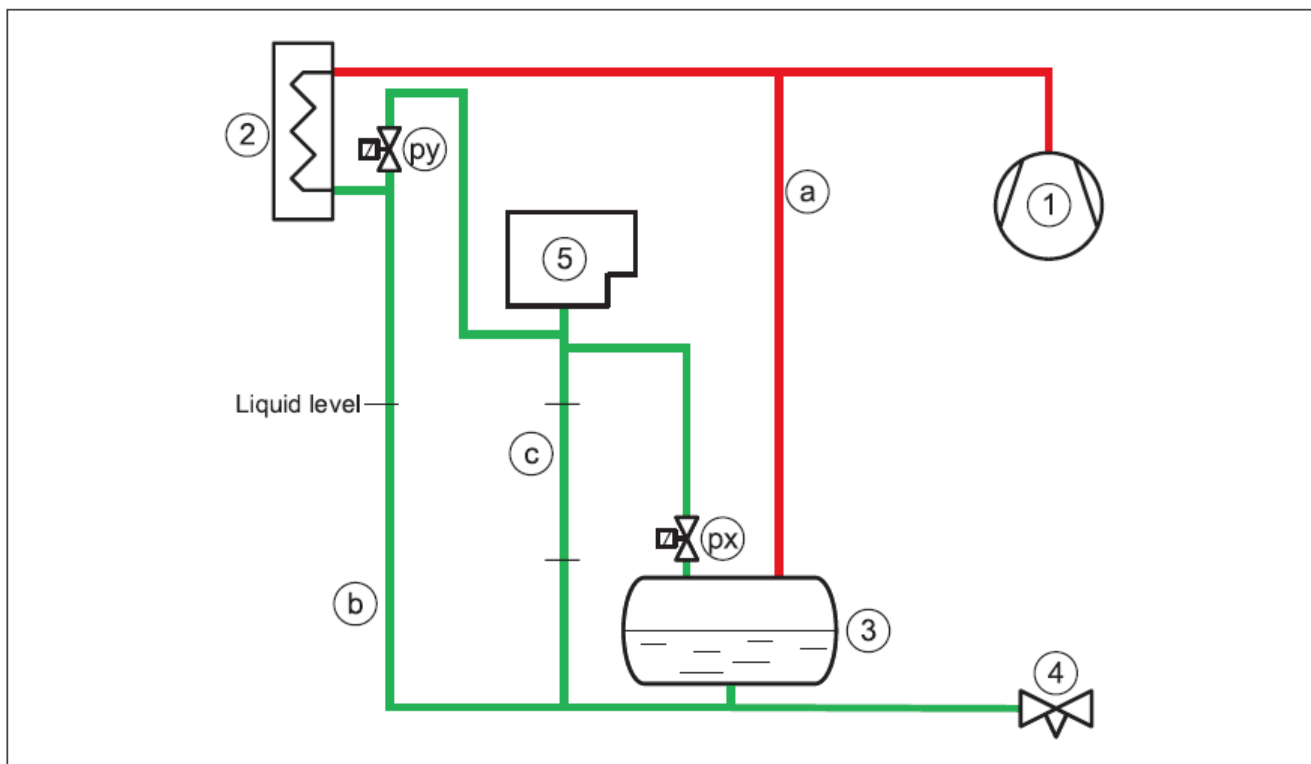
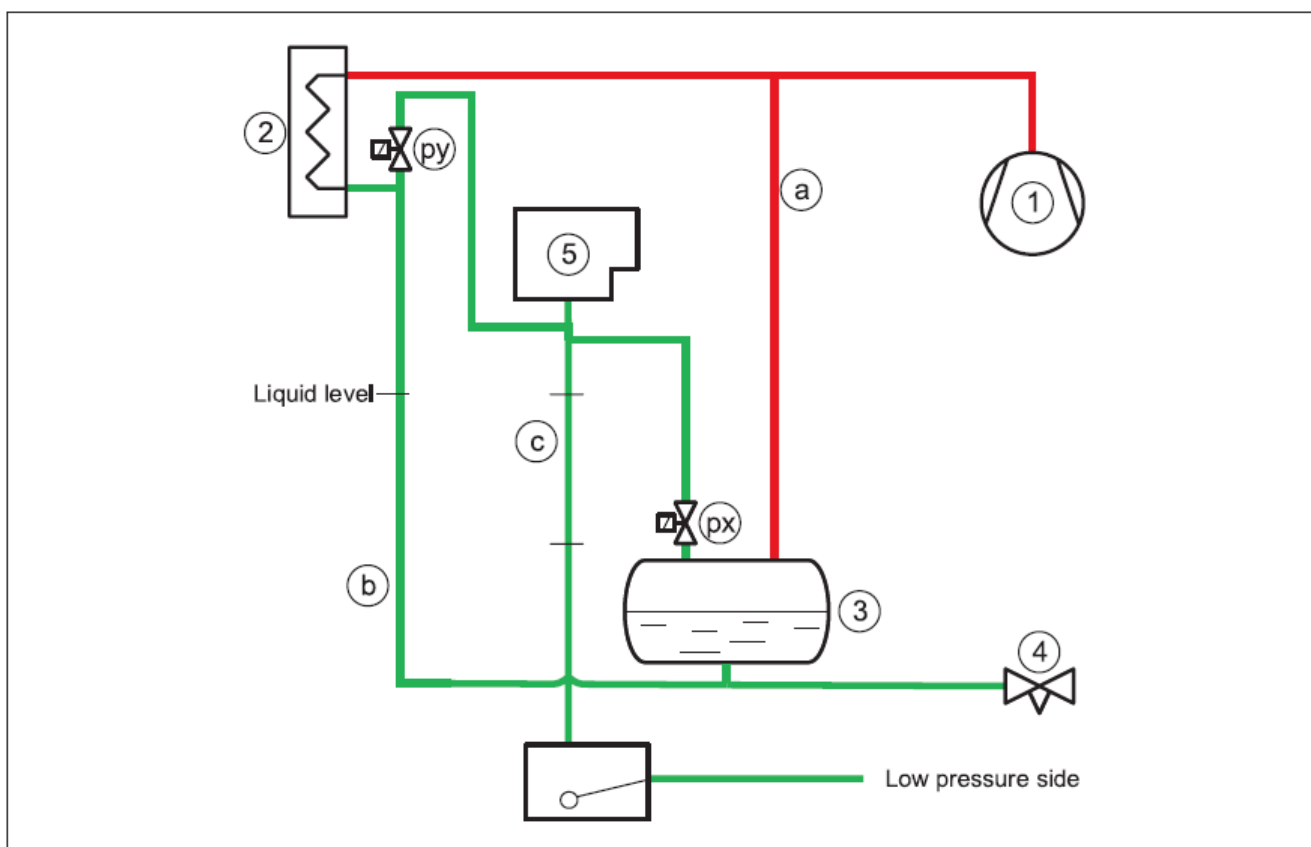

Fig. 6 Purger connections (px) & (py). Drain piping (c) must be vertical/downward slope
Fig. 7 Purger connections (px) & (py). Drain piping (c) must be vertical/downward slope
- The correct locations for the air purger to be connected to the ammonia plant are: (See Fig. 6 and Fig. 7)
- The air purger (5) is connected to the two purge points through solenoid valves (px and py). Note that only one solenoid should be open at any given time, otherwise the liquid column in the condenser will be short-circuited.
- When the purger is connected to the receiver i.e. solenoid (px) open, the liquid level in the air purger drop leg (c) will be equal to the receiver liquid level (3);
- Alternatively, the air purger draining of liquid can be achieved effectively through an HP float valve (6) to the low pressure side (see Fig. 7).